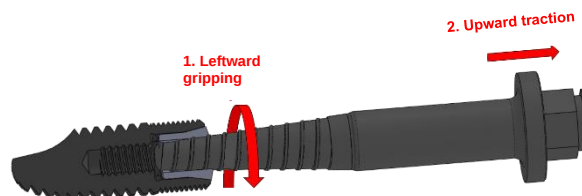

Figure 6 Working with the InHex prostheses rescue element
Step 3: Finally, the rescue element + fractured prosthesis assembly is extracted by pulling it upwards. Figure 6 shows the working procedure.